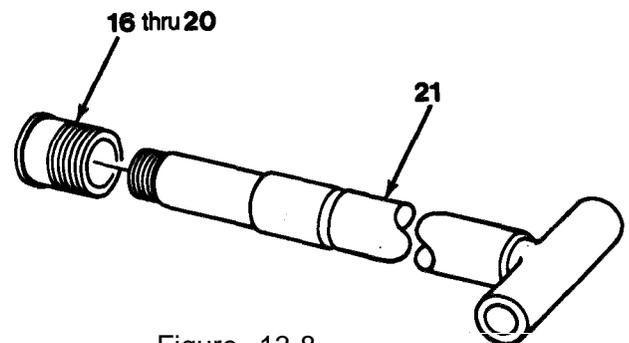

Figure 13-8
15. Remove items 16 thru 20 as an assembly from rod assembly (21, Figure 13-8).